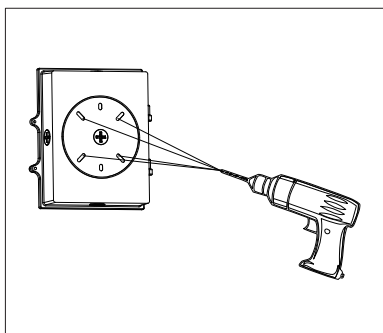
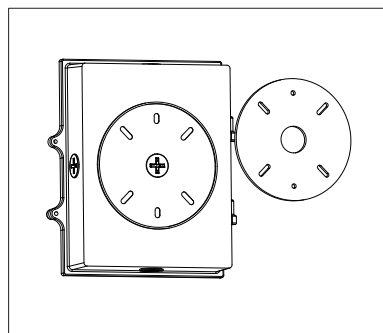

Figure 5
Figure 6
**STEP 3:** Drill an installation hole at the bottom of the light, paste the EVA mat (Figure 5 & Figure 6)